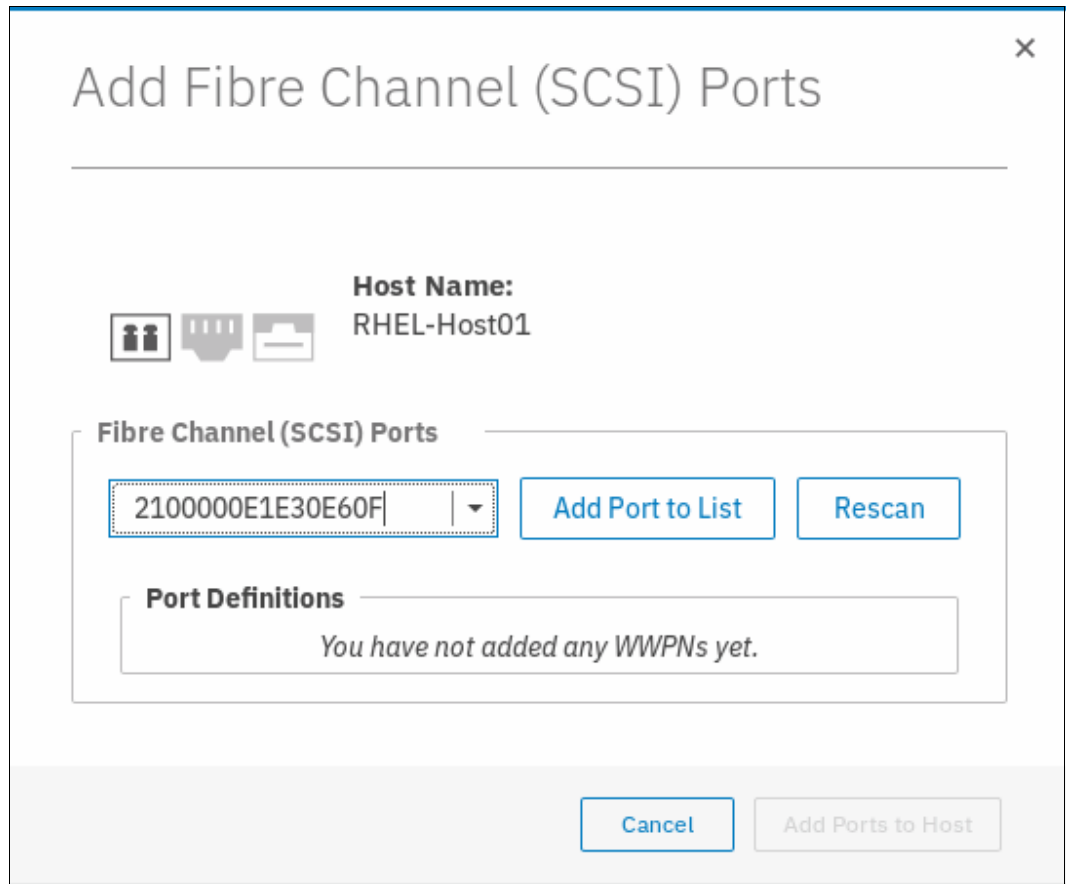

Figure 8-28 Add Port to List
3. Select the wanted WWPN and click **Add Port to List**, as shown in Figure 8-28.